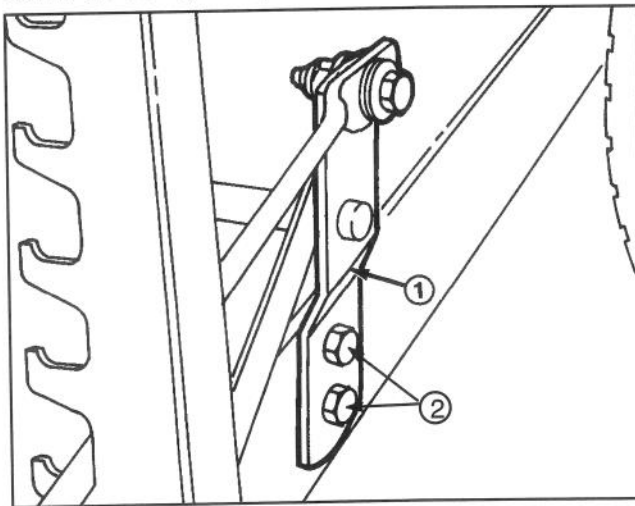

Figure 32
5. If blade tip height is not within 1/8 inch (3 mm), level cutting unit by loosening height-of-cut support bracket capscrews and raising or lowering the bracket (Fig. 32).